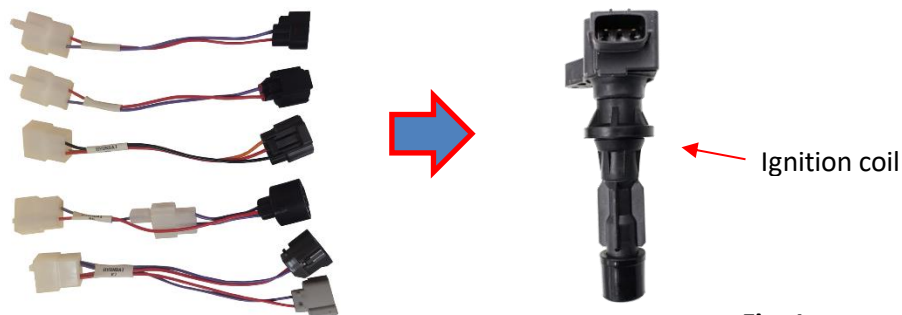

Fig. 1
2. Depending on the car make, select the appropriate connection cable (see examples Fig. 1 below) provided in the test kit to fit the ignition coil under test.